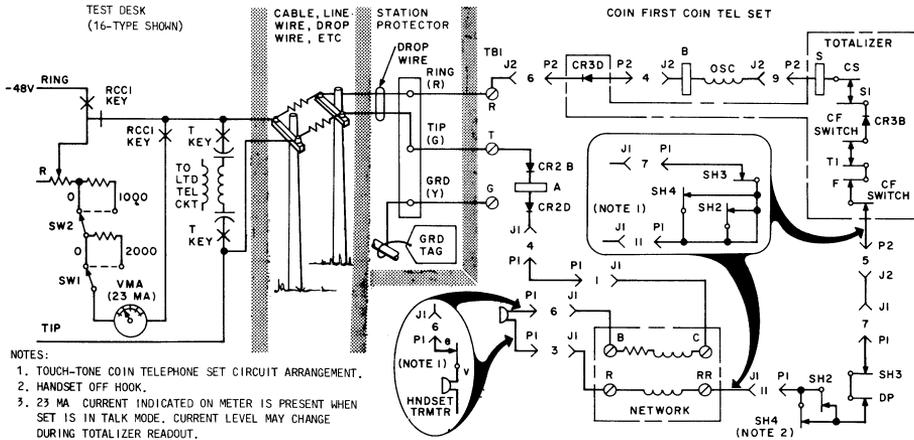

Fig. 1—Totalizer Current Flow Test (Coin-First)
1. This test must be conducted with a craftsperson at the coin station. Use Fig. 1, 2, and 3.